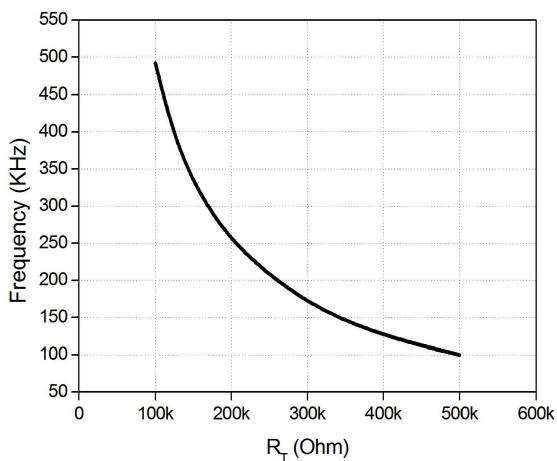

Figure 1 Boost switching frequency vs. RT
The MAP3201 can set the switching frequency of Boost converter by connecting external resistor between RT and GND Pin. Recommended switching frequency is 100 KHz to 400 KHz. See Figure 1 for switching frequency adjustment resistor (RT)